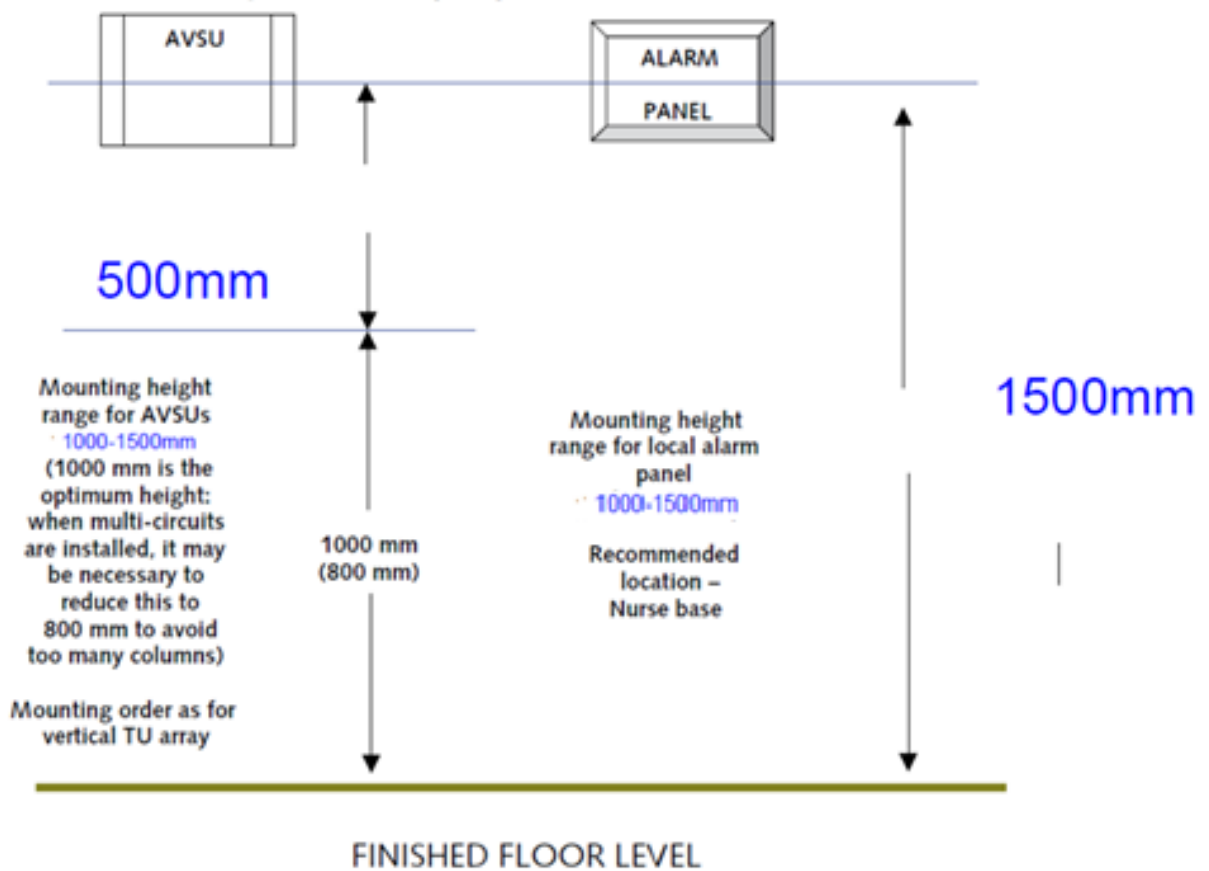

Figure 7.1 –Panel Installation Details
4. The installation height requirements of the panel for healthcare facilities in DHA, shall be as per figure 7.1 below. This height is based on the comfortable average heights for nurses within DHA facilities.